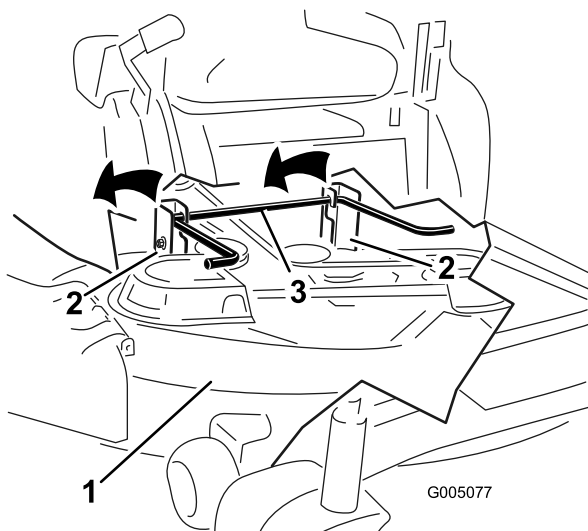

Figure 60
6. Lift the mower deck and hanger brackets clear of the rear lift rod and lower the mower carefully to the ground (Figure 60).
5. Lift the rear of the mower deck and guide the hanger brackets over the rear lift rod (Figure 60).